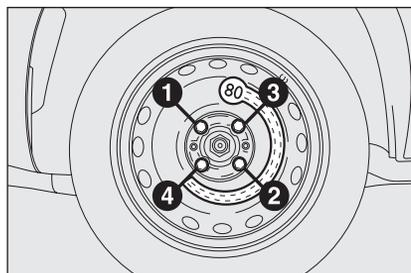

fig. 8
- using the wrench provided, tighten up the wheel bolts in a criss-cross fashion following the sequence shown in **fig. 8**.
- Using the wrench provided, fully tighten the bolts in the sequence shown in **fig. 8**;
- Using the wrench provided, fully tighten the bolts in the sequence shown previously for the space-saver spare wheel (see **fig. 8**).